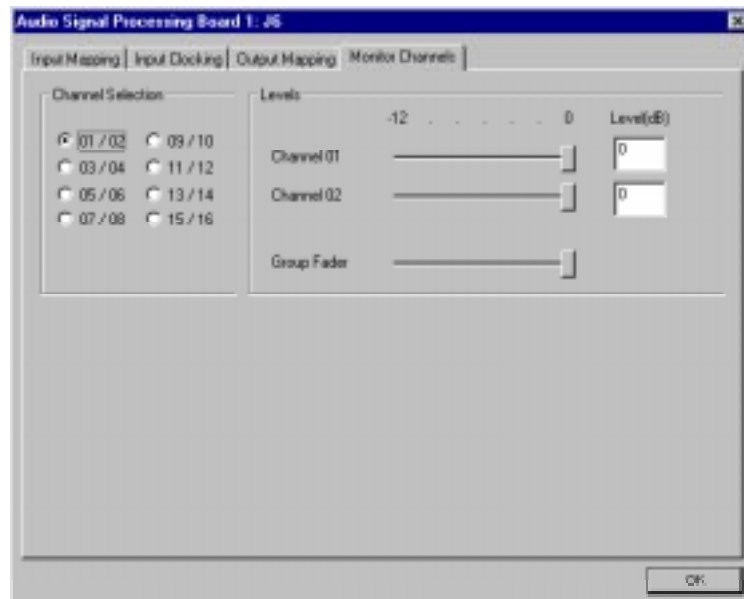

Figure 44. Audio Configuration dialog box, Monitor Channels tab
1. Choose **Options | Audio Configuration Board 1 or 2** or click an ASPB Configuration button. The Audio Configuration dialog box appears (Figure 44).